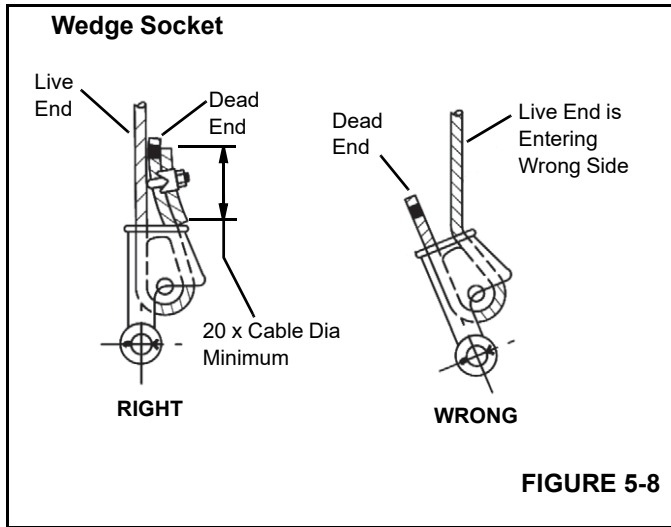

FIGURE 5-8
3. Make sure the live-end (Figure 5-8) of the rope is directly in line with the ears of the socket and the direction of pull to which the rope will be subjected. If the rope is loaded into the socket incorrectly, under a load the rope will
4. Insert the end of the wire rope into the socket, form a loop in the rope, and route the rope back through the socket allowing the dead-end (Figure 5-8) to protrude from the socket. Ensure the dead-end of the rope is of sufficient length to apply end treatment to the dead-end after the wedge has been seated.